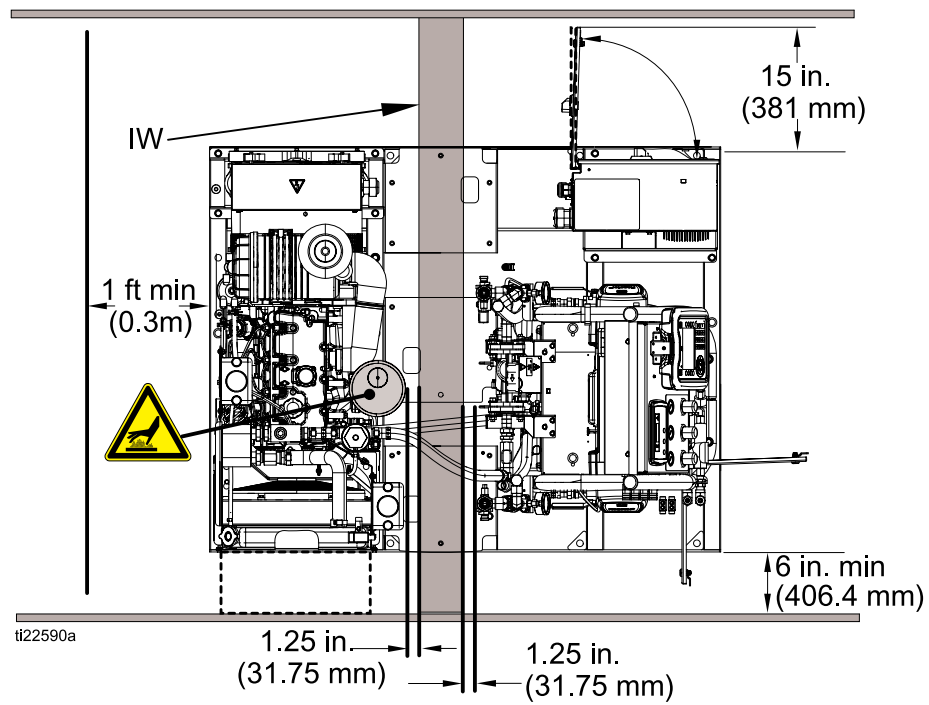

Figure 22 Top View With Wall
4. Install wall (IW) where the fuel tank was located. Ensure there is at least 1.25 in. (31.75 mm) between the wall and exhaust muffler. See Fig. 22.